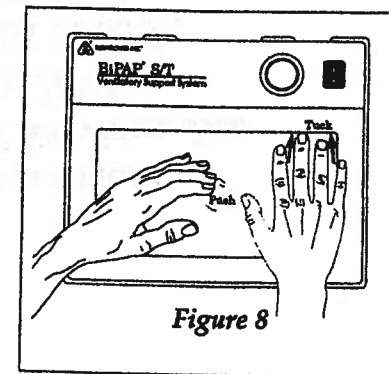

Figure 8
- Step 6** Center a new filter over the filter holder. Carefully push in on the center button and tuck the filter in on all four sides. See Figure 8.